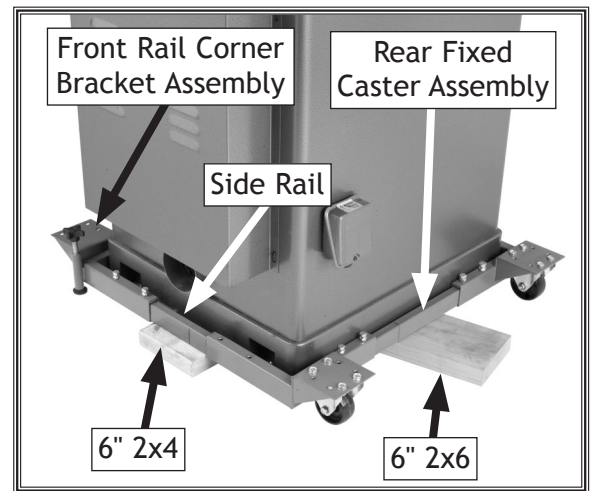

Figure 27. Rear fixed caster assembly inserted into front caster assembly.
19. While an assistant lifts up on the back of the machine, slide the rear fixed caster assembly onto the side rails of the front rail-corner bracket assembly so the rear assembly is close to the machine base, and the corner pads slide under the machine, as shown in **Figure 27**.
Note: It may help to place a 6" 2x4 or 2x6 under the base temporarily if you need to adjust the width of the rear fixed caster assembly (see **Figure 27**). Remove the block after you finish adjustments.